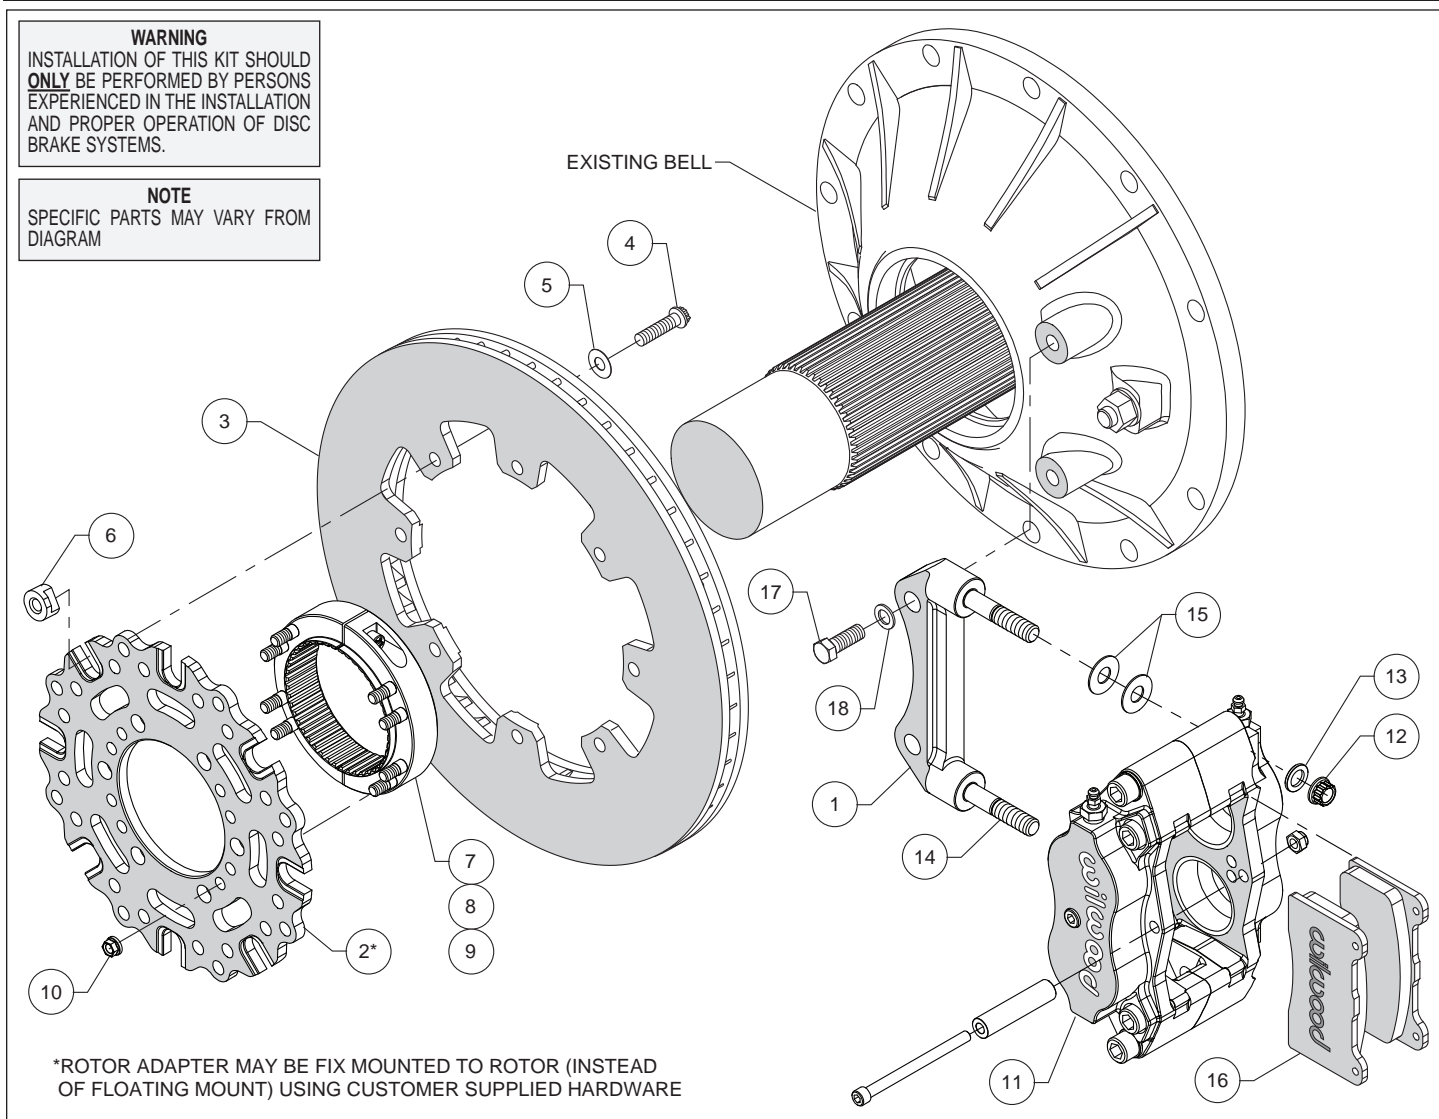

Figure 1. Typical Installation Configuration
- Orient the caliper mount bracket (1) as shown in Figure 1 and install using bolts (17) and washers (18). Temporarily tighten the mounting bolts. **NOTE:** The bracket must fit squarely against the mount bosses on the bell. Inspect for interference from casting irregularities, machining ridges, burrs, etc. Remove the bracket mounting bolts one at a time, apply red *Loctite*® 271 to the threads, and torque to 60 ft-lb.
- Orient the rotor adapter (2) and the rotor (3), as shown in Figure 1, and attach using bolts (4), washers (5), and t-nuts (6), Figure 1. Apply red *Loctite*® 271 to the bolt threads before installing. Finger tighten. After all t-nuts have been installed, torque bolts in an alternating sequence to 220 **in-lbs**. Please refer to Wilwood's data sheet DS-669 (available at www.wilwood.com/Pdf/DataSheets/ds669.pdf) for complete t-nut bolt kit installation instructions. **NOTE:** Rotor adapter may be fix mounted to rotor (instead of floating mount) using customer supplied hardware.
- Orient the axle clamp assembly (7, 8 and 9, pre-assembled) as shown in Figure 1 and install onto the rotor adapter (2) using nuts (10). Tighten nuts part way while still allowing clamp-to-rotor movement. The nuts will be torqued later, after aligning the rotor. **NOTE:** *The axle clamp should be positioned inside of the rotor as shown in Figure 1, not offset, or outside of the rotor adapter.*
- Lubricate the caliper mounting studs (14) with lightweight oil. Initially place two .035" thick shims (15) on each stud as shown in Figure 1. Mount the caliper (11) onto the bracket (1) using lock nuts (12) and washers (13), Figure 1. Temporarily tighten the lock nuts and view the rotor through the top opening of the caliper. The rotor should be centered in the caliper. If not, slide the rotor/adaptor assembly on the axle until the rotor is centered in the caliper. Tighten the clamp bolts (9) first, locking the clamp to the axle. Torque nuts (10) to 140 **in-lbs**.
- Remove the caliper center bridge pad retainer bolt, nut, and tube from the caliper. Insert the brake pads (16) into the caliper, with the friction material facing the rotor. Check that the top of the brake pad is flush with the outside diameter of the rotor. If not, adjust by adding or subtracting shims (15) between the caliper and the bracket. After the caliper pad height is set, torque the caliper lock nuts (12) to 30 ft-lb. Secure the brake pads in place with the center bridge pad retainer tube, bolt, and locknut. The locknut should be snug without play in the bolt or tube. Be cautious not to over tighten.